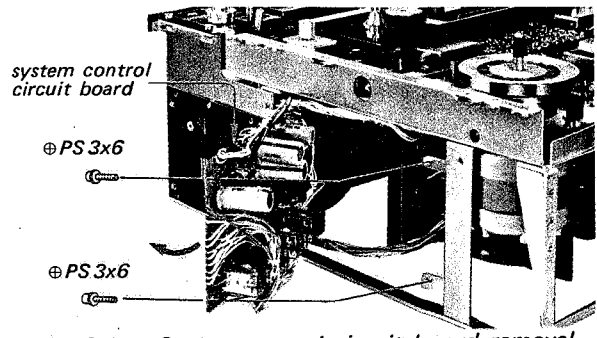
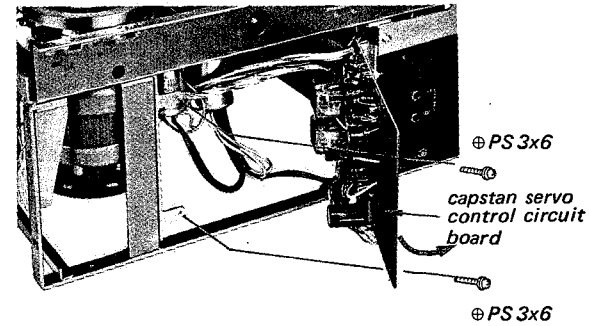

Fig. 2-4. System control circuit board removal
Fig. 2-5. Capstan servo control circuit board removal
- ① Remove the cabinet.
- ② Remove the two screws securing the each printed circuit board in Fig. 2-4 and Fig. 2-5.
- ③ The printed circuit board can now be opened in the direction shown by the arrow in Fig. 2-4 and Fig. 2-5.